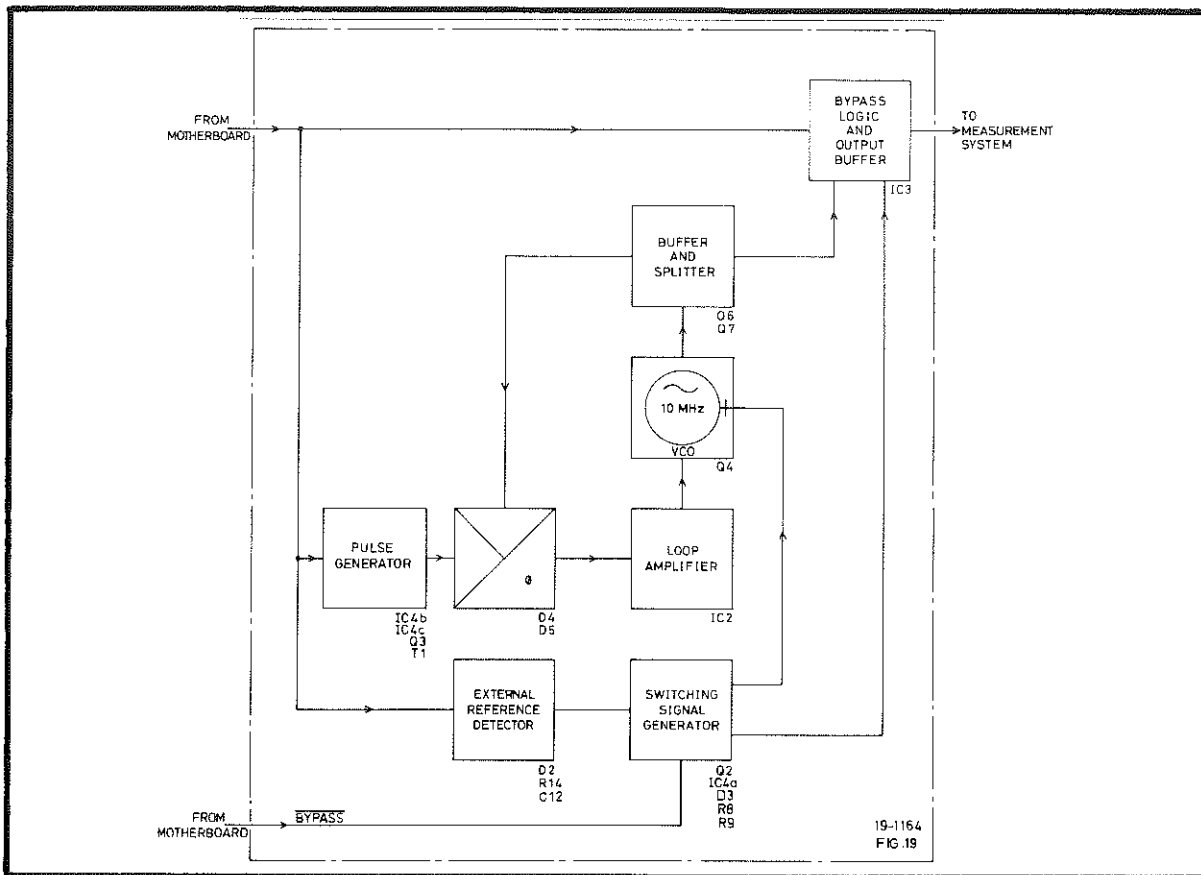

Fig 6.13 The Reference Frequency Multiplier
- 124 The block diagram of the multiplier is given in Fig 6.13. The input to the circuit is taken from the EXT STD INPUT socket on the rear panel, via a signal conditioning circuit on the motherboard. The output of the circuit is passed to the measurement system. The BYPASS control line is held at logic '1' by the microprocessor when the external standard is in use. When the RATIO A/D measurement function is selected the EXT STD INPUT socket is used as the channel D input. The BYPASS control line is then held at logic '0', the switching signal generator is disabled, and the channel D signal is connected directly to the measuring system via the bypass logic.
- 125 The circuit contains a 10 MHz oscillator operating in a phase-locked loop. If an external reference signal of suitable amplitude is present at the EXT. STD. (D) INPUT socket, a rectangular waveform at the reference frequency is fed to the external reference detector. The detector output triggers the switching signal generator. The oscillator is then enabled and the bypass logic connects the 10 MHz from the buffer and splitter to the output.